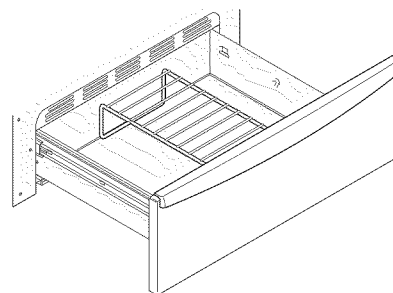

Figure 35: Upright position
- In the upright position (See Figure 35) to allow low profile food items to be placed both under and on top of the rack (for example, rolls or biscuits on top of the rack and a casserole dish underneath).